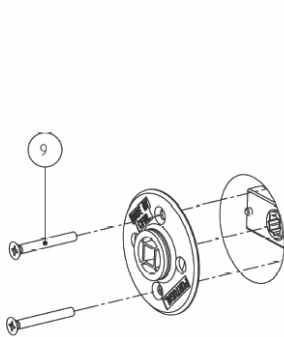

Figure 3
4. Slide mounting bracket over spindle [8] and fasten with two screws [9], as shown on figure 3.